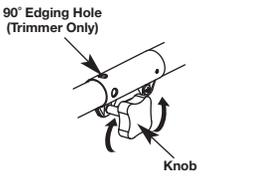

Fig. 15
1. Turn knob counterclockwise to loosen (Fig. 15).
3. Turn the knob clockwise to tighten (Fig. 15).
For edging (when using the line head cutting attachment with EZ-LINK® models), lock the release button of the cutting attachment into the 90° edging hole (Fig. 15).
1. Turn the knob counterclockwise to loosen (Fig. 15).